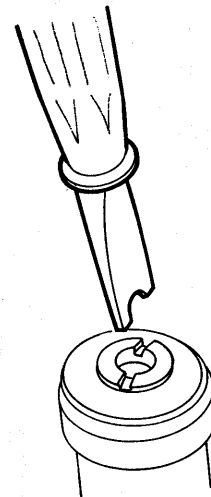

Fig. 2
- Remove the upper nuts together with the fork caps and rubber washers from the upper end of the fork (slotted screwdriver, No. 100012, fig. 2).